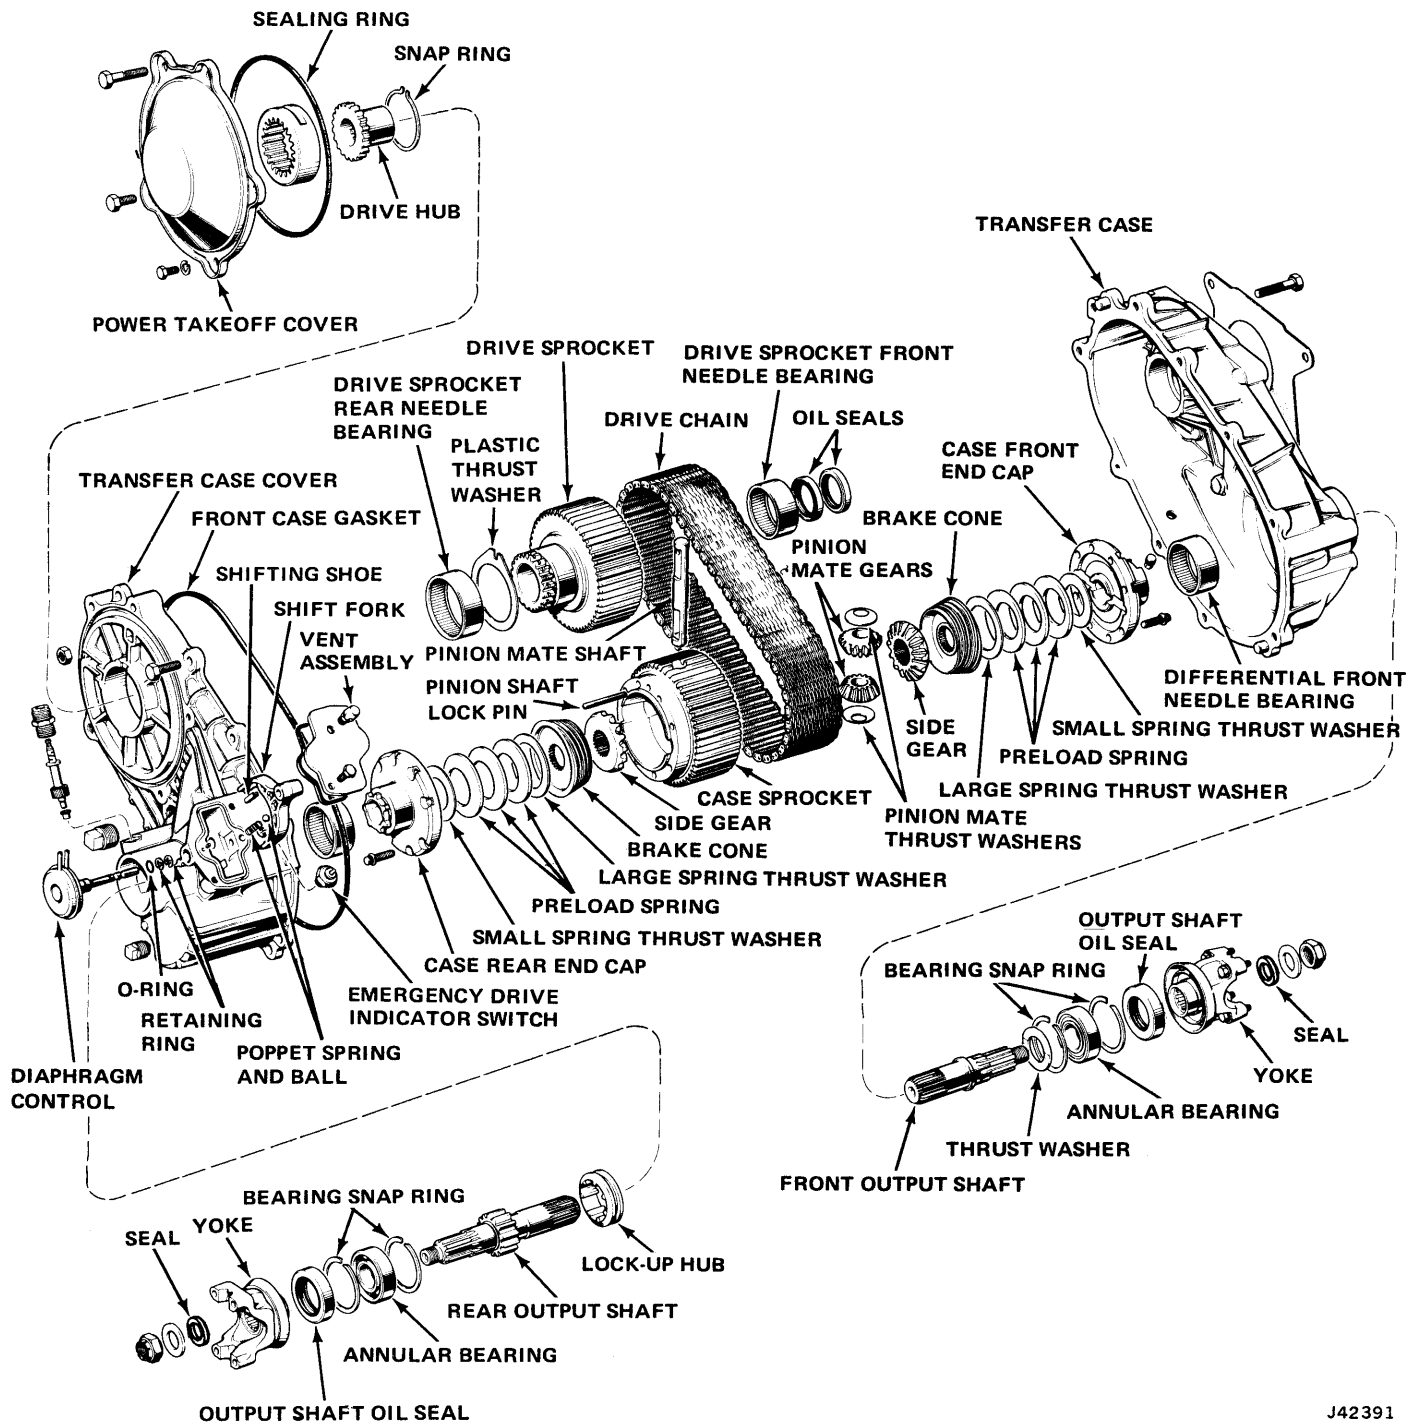

Fig. 8-40 Quadra-Trac Transfer Case Components
(2) If not equipped with reduction unit, remove power takeoff cover from rear of transfer case cover. Remove sealing ring from transfer case cover (fig. 8-40).